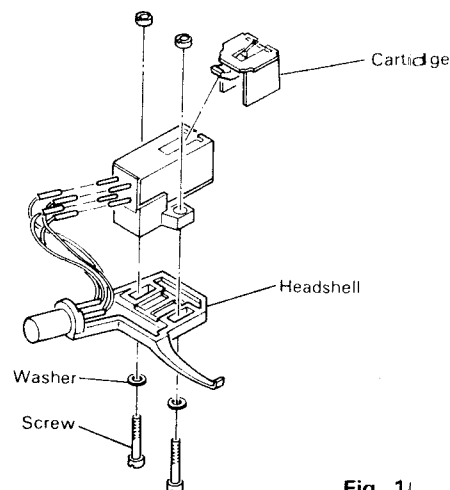

Fig. 14
5-(2) Mounting Cartridge (Fig. 14)